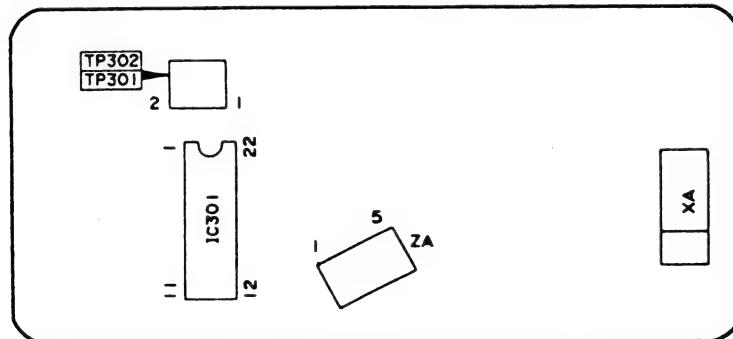

Figure 2-5. HEAD AMP PWB
6. Repeat the above step 5 to finally get the playback video signal level at  $1.0 \pm 0.05 \text{ Vp-p}$ , as shown in Fig. 2-5.